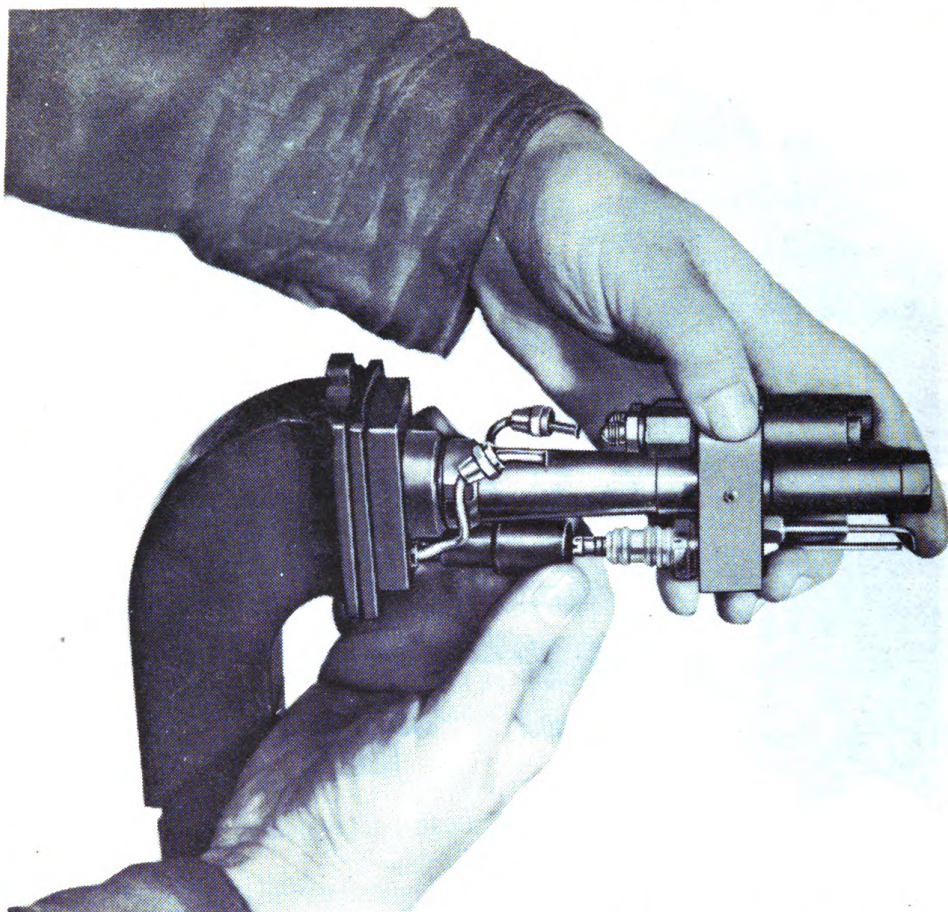

Fig. 67. Pulling spark plug cable terminal away from spark plug.
- Separate the spark plug lead terminal from the spark plug by pulling the spark plug cable terminal away from the spark plug (fig. 67).